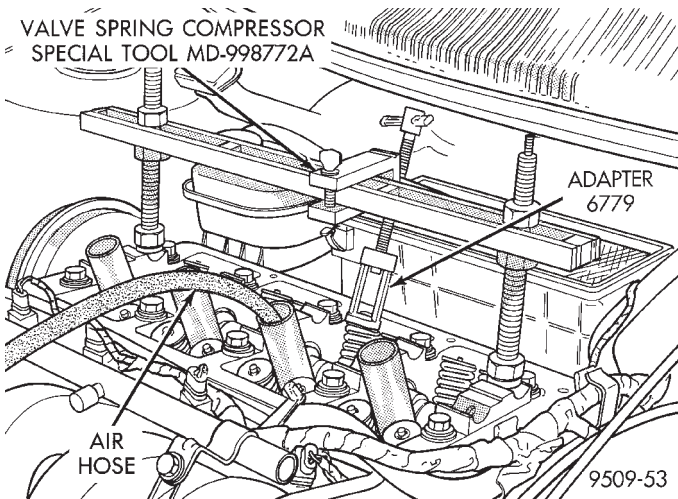

Fig. 37 Removing and Installing Valve Spring
- (1) Remove rocker arm shafts assemblies. Refer to procedure in this section.
- (2) Rotate crankshaft until piston is at TDC on compression stroke.
- (3) With air hose attached to adapter tool installed in spark plug hole, apply 90-120 psi air pressure.
- (4) Using Special Tool MD-998772A with adapter 6779 (Fig. 37) compress valve springs and remove valve locks.